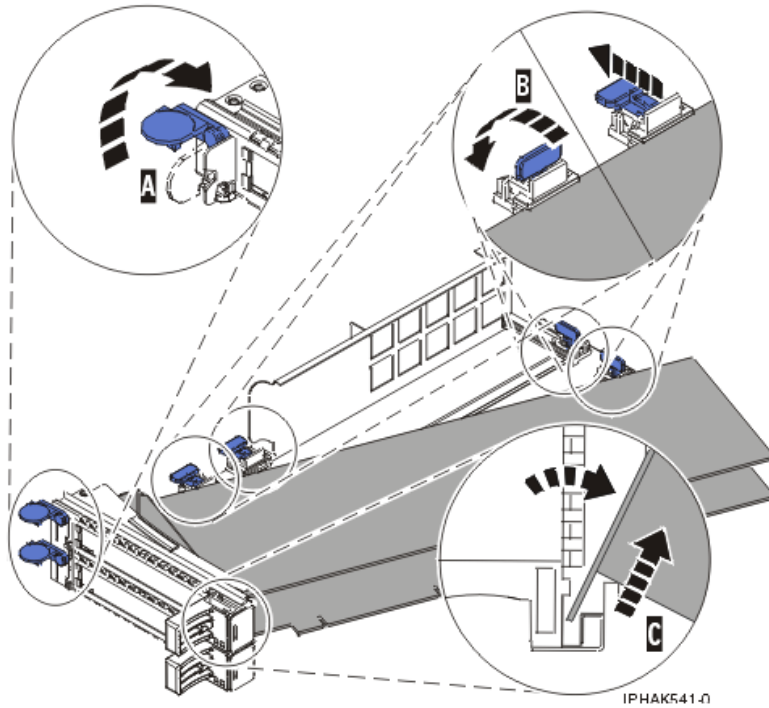
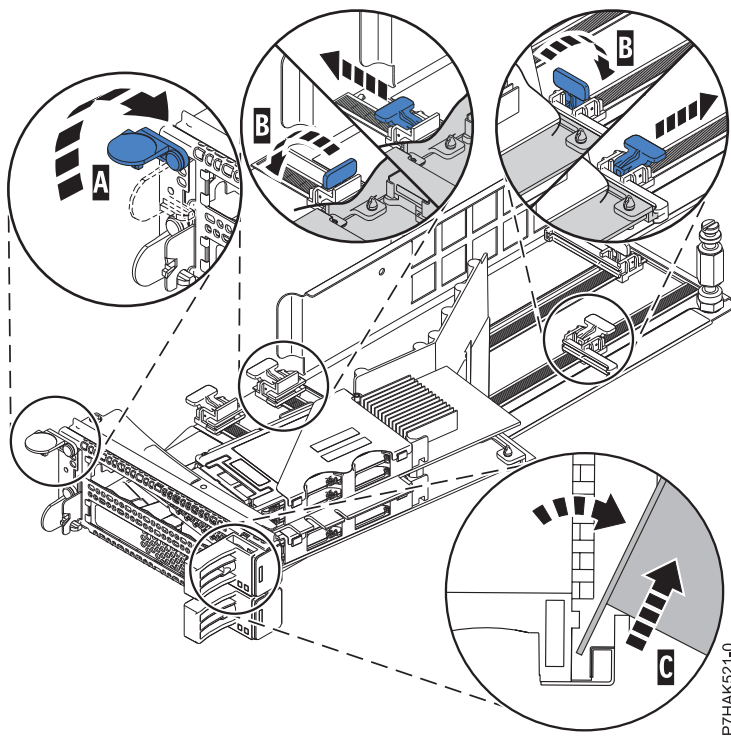

Figure 47. Adapter removed from the PCI adapter cassette
Figure 48. PCIe RAID and SSD SAS adapter removed from the PCI adapter cassette
- d. Unscrew pivot pin (C) and put it in a safe place
- a. Unlock the adapter retainers (B) by rotating the retainer clips (A) into the horizontal position. See Figure 47 on page 59. If you are removing a PCIe RAID and SSD SAS adapter, see Figure 48 on page 59.